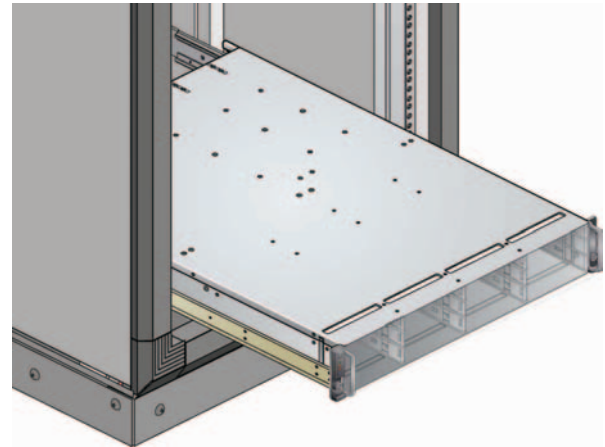

Figure 4: Mounting the Enclosure into a Rack
5. Mount the enclosure in the rack as follows (refer to Figure 4):